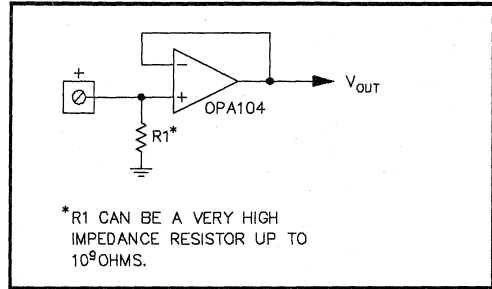

Figure 8.2. A very high input impedance buffer circuit.
**Input Buffering** -- The input characteristics (bias current, impedance, offset voltage, bandwidth, slew rate, etc.) of the DA&C system place limits on the range of signals that can be accurately measured. Some transducers, including piezoelectric and pH, exhibit a very high output impedance. Under these conditions, direct connection to the DA&C system (normally presenting a "moderate" input impedance) can result in measurement errors. These applications require that a special, high input impedance, amplifier be incorporated to buffer the connection between the signal and the actual measuring device. Figure 8.2 suggests a type of buffer circuit that can be used.